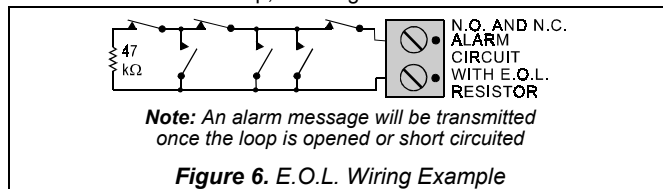

Figure 6. E.O.L. Wiring Example
- C. If the auxiliary input is defined as an E.O.L. type (**SW2** set to **ON**), Normally Closed (N.C.) as well as Normally Open (N.O.) sensor contacts can be used. A 47kΩ E.O.L. resistor must be wired at the far end of the zone loop, as in Figure 6.